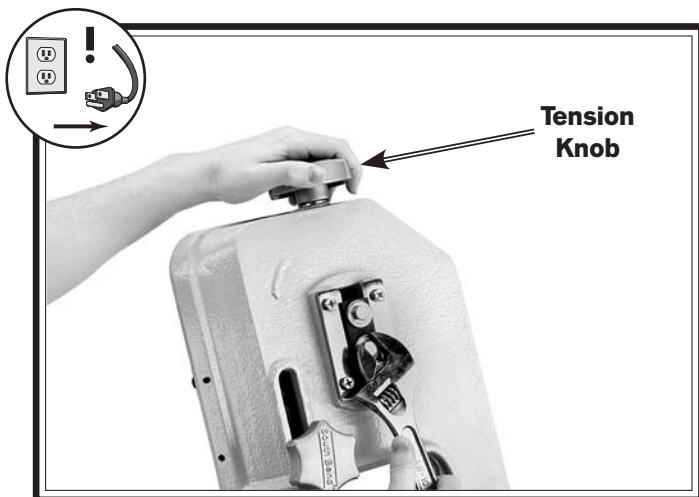

Figure 32. Adjusting blade tension.
4. Turn the tension knob in **Figure 32** clockwise to tighten the blade or clockwise to loosen it.